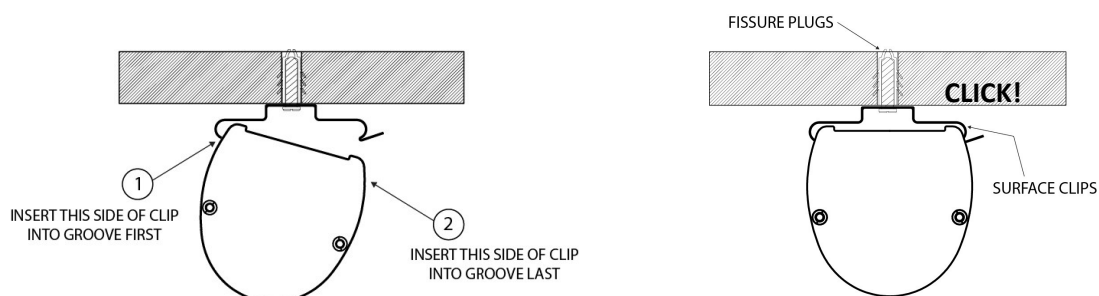

FIG. 2
- Clip the fitting as shown below, you will hear a CLICK when the bracket is secure. (Fig. 2)
- Clip the fitting into clip position as shown in Fig 2 above. Hear the CLICK when the bracket is secure.